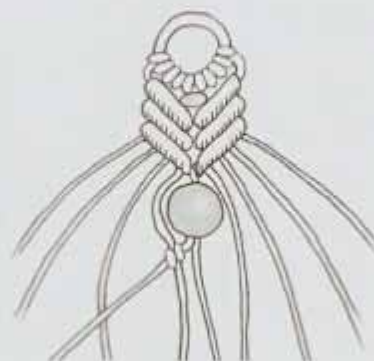
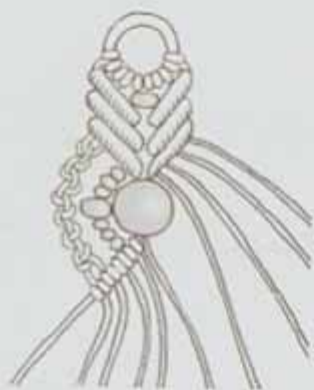

Fig. 5
Fig. 6
1. Thread a 6mm bead onto Cords #5 & 6. They will come out of the bottom of the bead and will be used as the **ACs** for **Row 5** on both sides of the earring (see Figure 5 and 6).
2. **Row 5** - Use Cd #5 (coming out of the bottom of the bead) as your **AC** for the left half of the earring and bring it diagonally out to the left. Make a **DHH** around the **AC** with Cd # 4, the next cord to the left (see Figure 5). The angle of **Row 5** should be the mirror image of Rows 2 - 4 (see Figure 6).
3. Take Cd #3 and thread on (3) 11° seed beads, (1) 8° bead, and (3) 11° seed beads. The count is approximate; adjust the number of beads if necessary. Attach Cord #3 to the **AC** with a **DHH** (see Figure 6).
4. Variation 1 : Take Cords #1 & 2 and make a **HHch** (Half Hitch Chain) of 10 **HHs**. Again, the number is approximate; adjust if necessary. Attach Cords #1 & 2 to the **AC** with **DHHs** (see Figure 6). Refer to the Basic Knots chapter for details of a **HHch**.